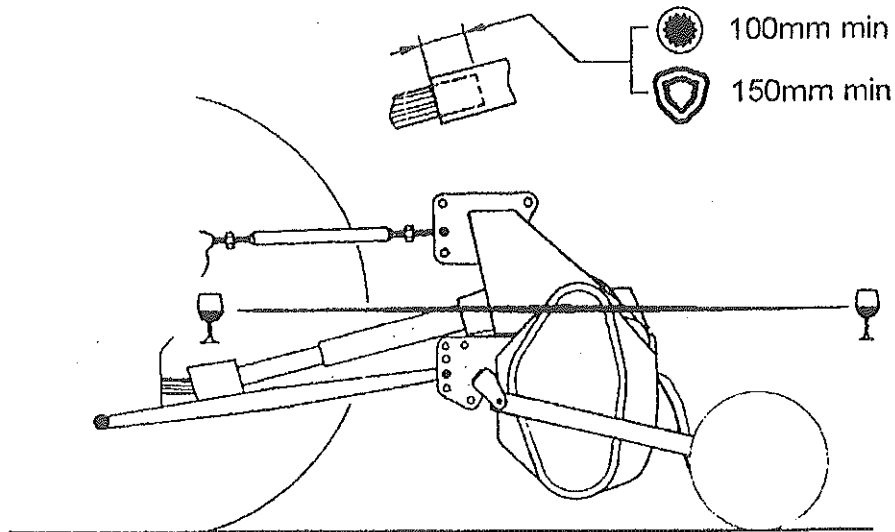

Fig. 6
- Select the linkage points on the Rotavator and adjust the top link such that the Rotavator input shaft is horizontal when in the working range and remains as close to horizontal when raised. See Fig 6.
150 mm for trilobal or star profile tubes. See Fig 6.